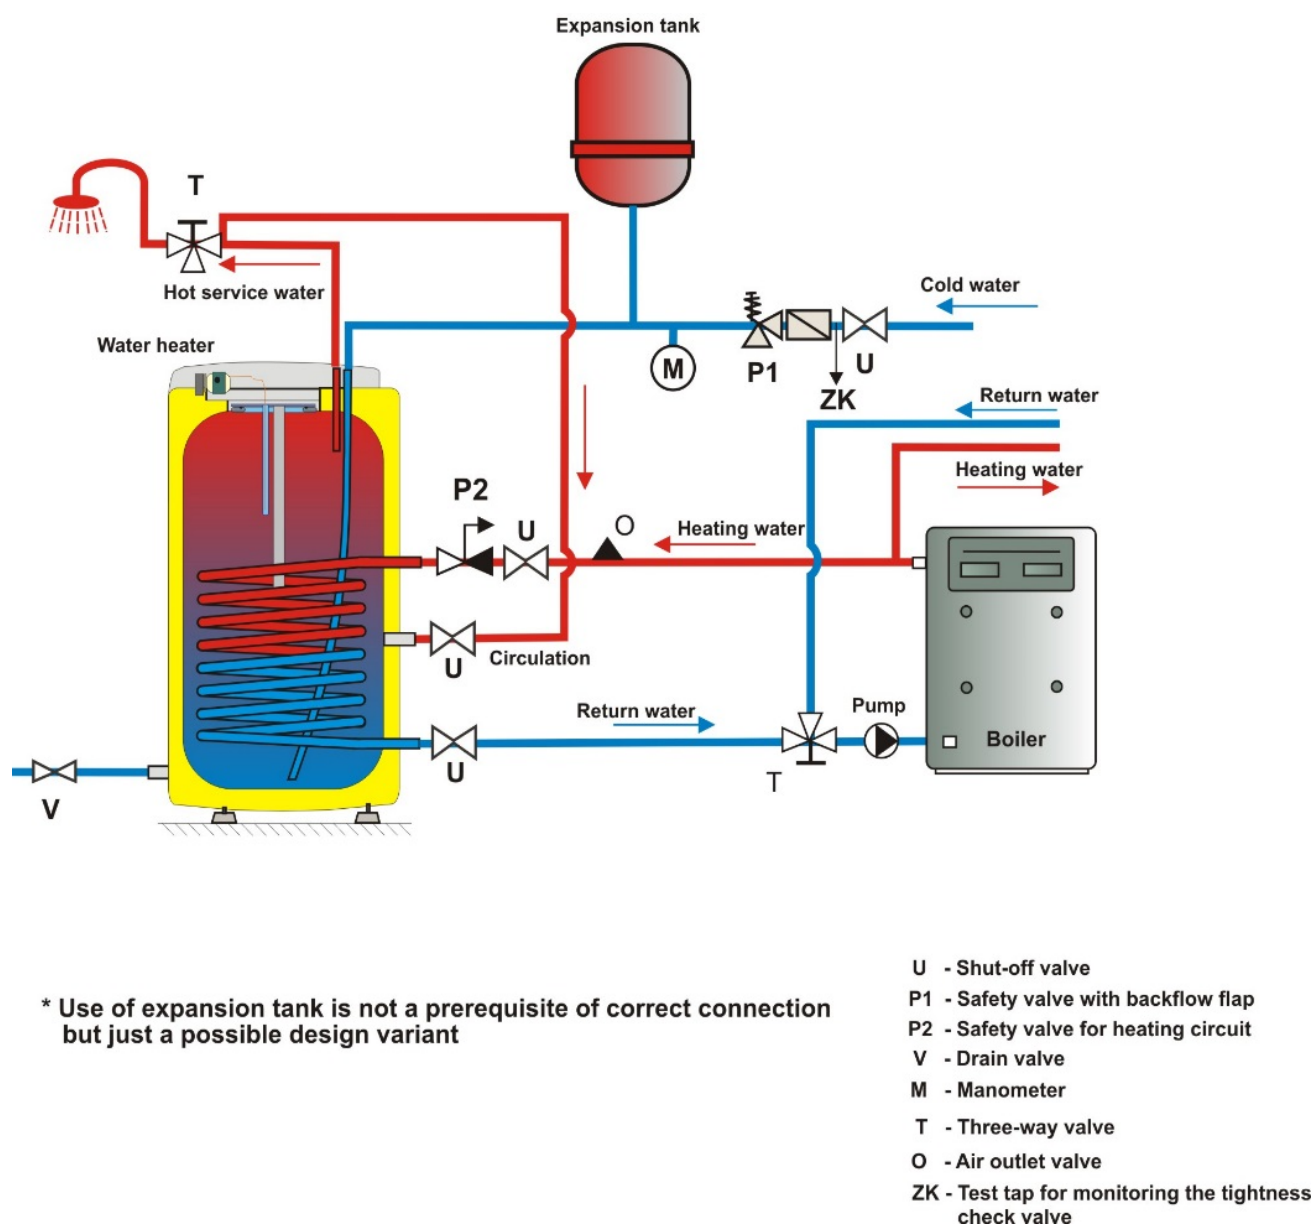
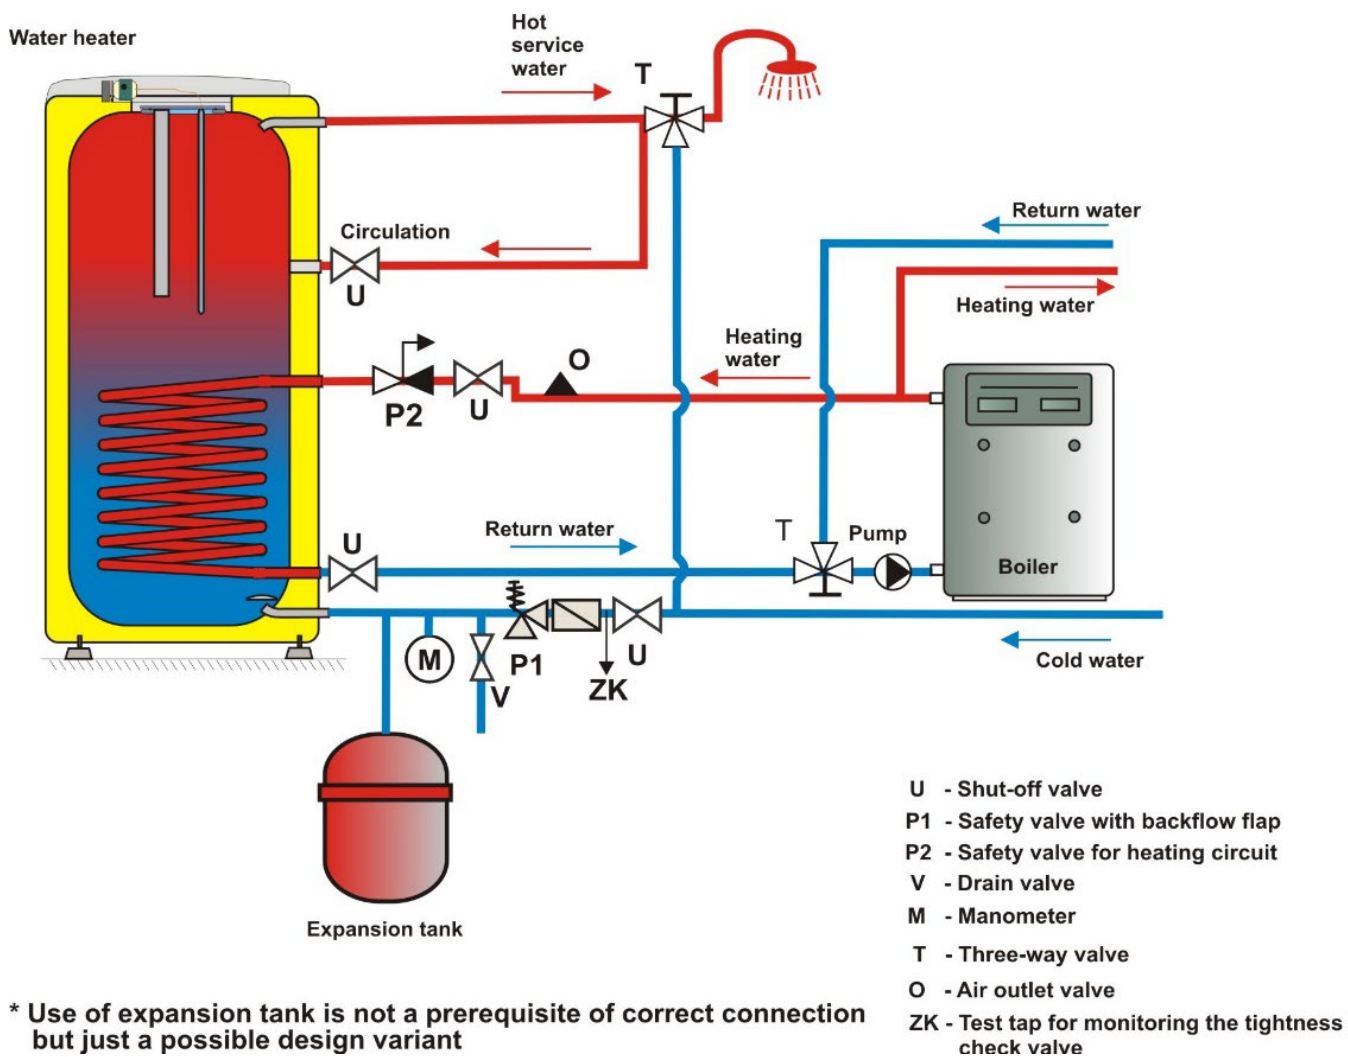
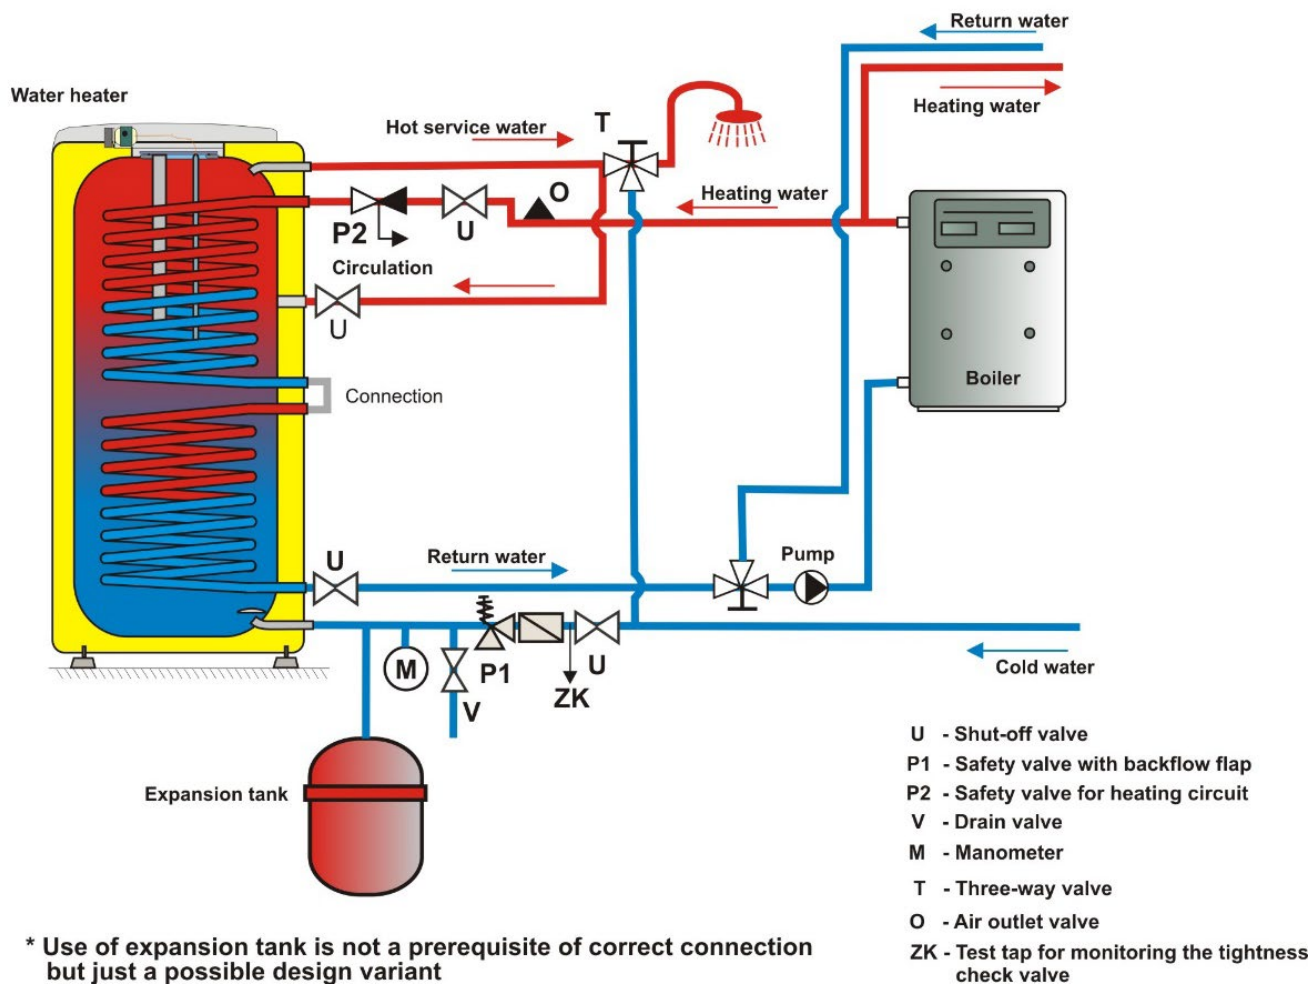

Figure 12
Figure 13
Figure 14
Connecting tanks to plumbing fixtures is shown in (Figure 12, Figure 13, Figure 14, Figure 15, Figure 16, Figure 17). For potential disconnection of the tank, utility water inlets and outlets must be provided with  $\frac{3}{4}$ " screw coupling. If the hot utility water (HUW) distribution is equipped with circulation circuit, the reverse pipe is connected to the inlet identified as CIRCULATION. Types 100, 125, 160 NTR and 100, 125, 160 NTR / HV are equipped with a drain outlet. A "T" plumbing with a drain valve has to be mounted in type 200 and 250 NTR(R) on the HSW inlet. The tank shall be equipped with a safety valve to ensure the operation. The safety valve is mounted on the cold water inlet identified with a blue ring. We recommend that the hot water distribution from the heater was as short as possible to minimize heat losses. Tanks must be provided with a discharge valve mounted on the cold service water inlet into the heater for potential disassembly or repair.